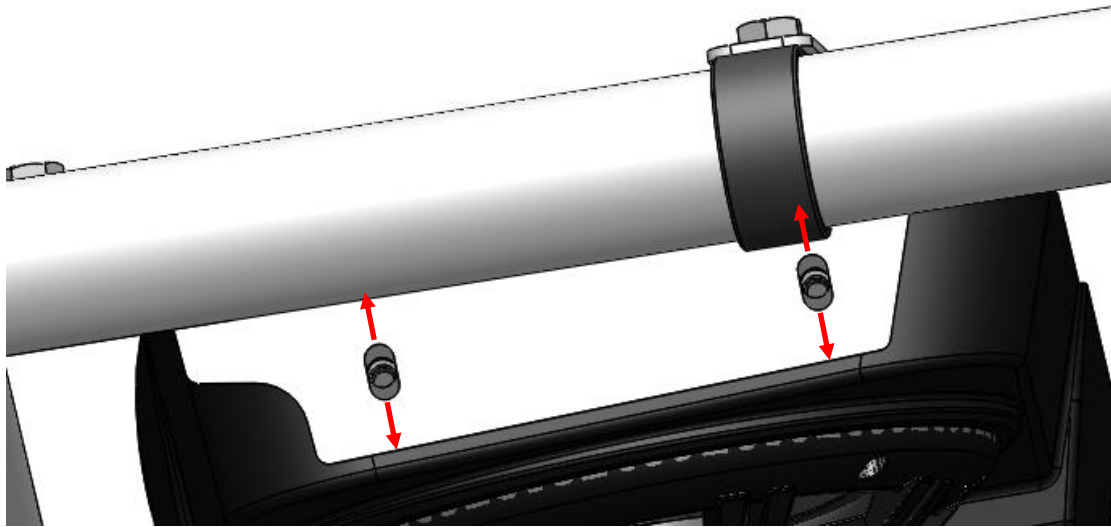

Figure 6: Up-down adjustability of the *Audio Mini*.
7. Tighten the 4 mounting bracket bolts after achieving the desired viewing position relative to the roof or roll cage. Slots in the brackets allow for up and down adjustability. See Figure 6. Torque the bolts to 10 ft.-lbs.